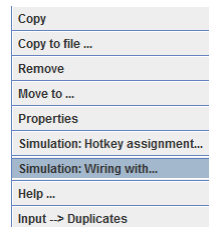

Fig. 35-10
- ▶ Select the "Simulation: Wire with..." function (Fig. 35-10)